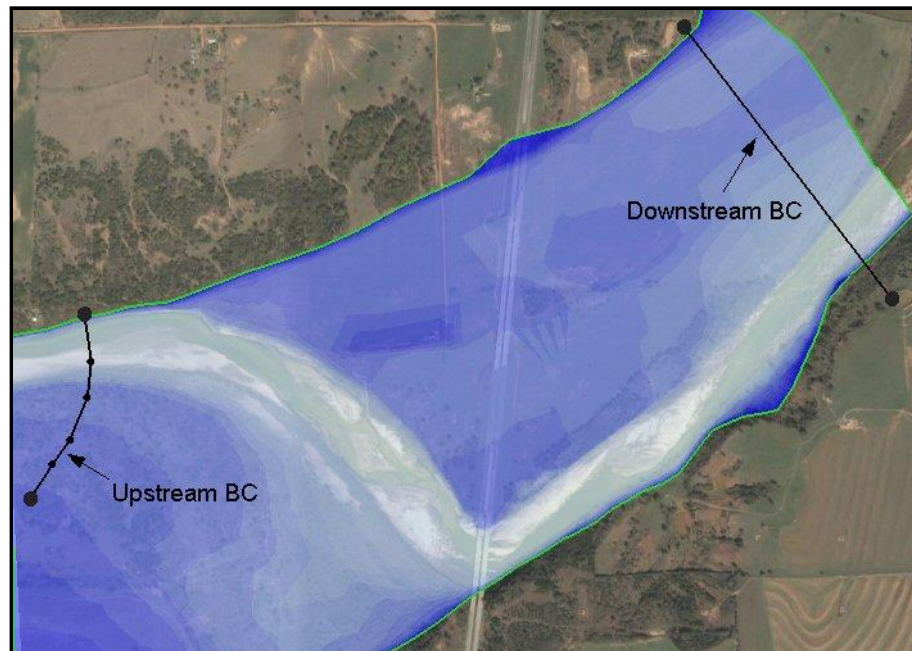

Figure 2 Positions of Boundary Condition arcs
4. Using the **Create Feature Arc**  tool, click out an arc at the location labeled “Upstream BC” in Figure 2.
Inflow boundary arcs should be created such that constant water surface (head) can be assumed along the arc. The arc as shown in Figure 2 is angled upstream in the floodplain as a better approximation of the correct equal head condition.
1. Using the **Create Feature Arc**  tool, click out an arc across the downstream portion of the model (see Figure 2). The arc can have as many or few vertices as desired. Since it is unknown how much of the model will be wet, create an arc across the whole model and TUFLOW will only use the wet portions of the boundary.
3. Set *Type* to be “Wse vs Time (HT)”.